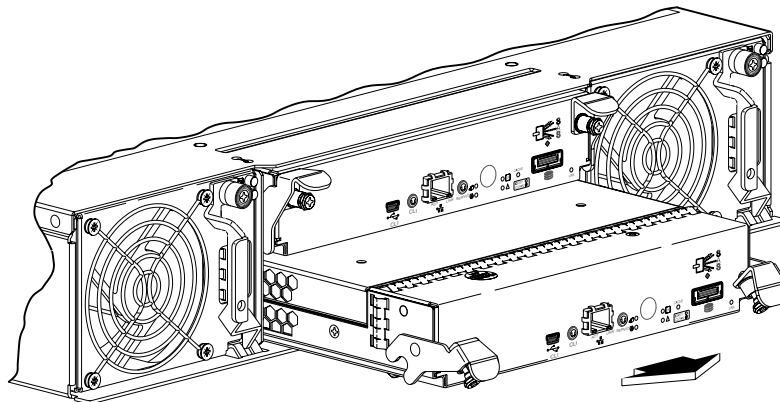

Figure 3 Removing a controller module
6. Pull the controller module straight out of the enclosure (see Figure 3).